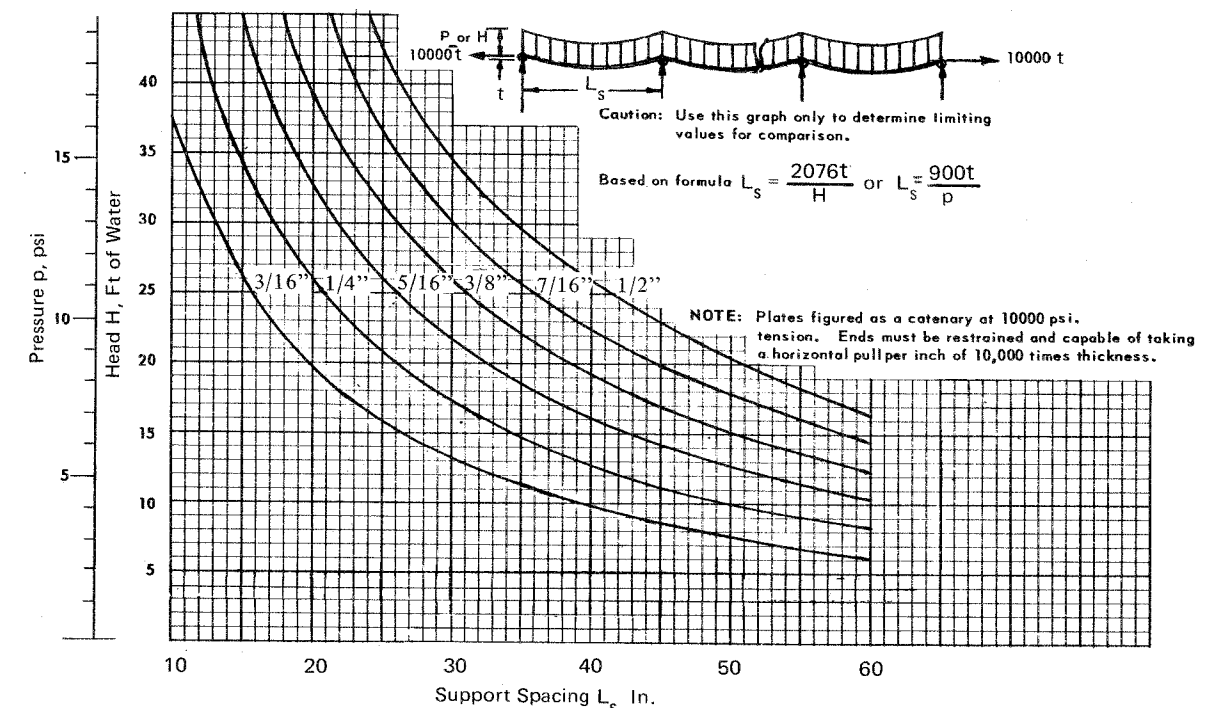

Figure 2. Stiffener Spacing for Flat Plate with Catenary Action.
Figure 2 gives graphical solutions for Eqs. (3) and (4).